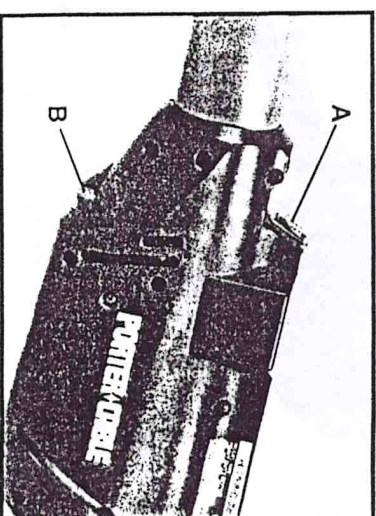

Fig. 4
Make sure power circuit voltage is the same as shown on the specification plate on the Sander, and that the Sander switch is OFF. Connect Sander to power circuit. The Drywall Sander is equipped with a "rocker" type switch (A) Fig. 4. The top end of the switch button is labeled OFF, and the bottom end of the button is labeled ON. To start the Sander: depress the bottom (ON) end of the switch button. To stop the Sander: depress the top (OFF) end of the switch button.
The Drywall Sander is equipped with a variable speed control. The speed is adjusted by turning the control knob (B) Fig. 4. The control knob is numbered "1" through "5" with "1" being the slowest speed (approximately 1000 RPM) and "5" being the fastest speed (approximately 1650 RPM).